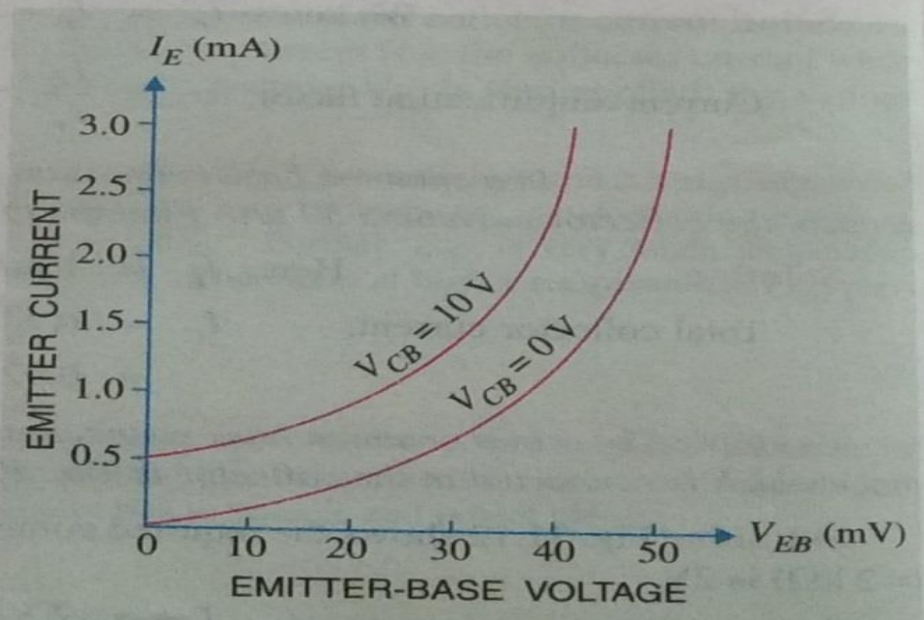

Fig. 11.14
**1. Input characteristic.** It is the curve between emitter current  $I_E$  and emitter-base voltage  $V_{EB}$  at constant collector-base voltage  $V_{CB}$ . The emitter current is generally taken along  $y$ -axis and emitter-base voltage along  $x$ -axis. Fig. 11.14 shows the input characteristics of a typical transistor in  $CB$  arrangement. The following points may be noted from these characteristics :